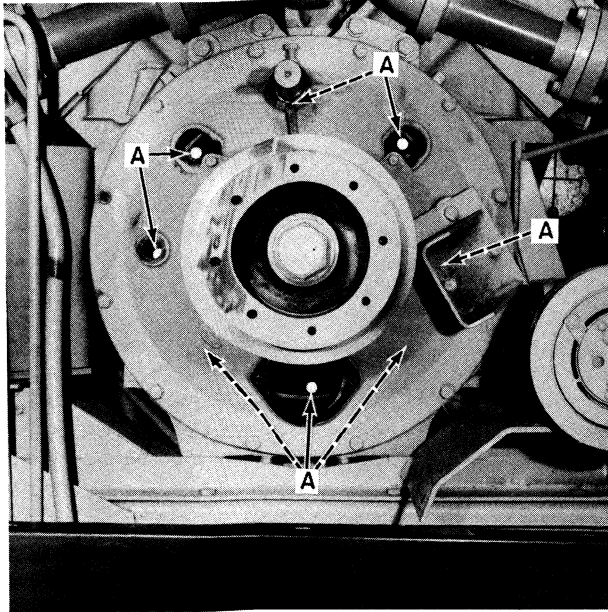

FIGURE 5A-32
3. Install  $\frac{3}{8}$ " x  $\frac{3}{4}$ " cap screws and external tooth lock washers, A, Figure 5A-32, to attach the flex plate to the flywheel.